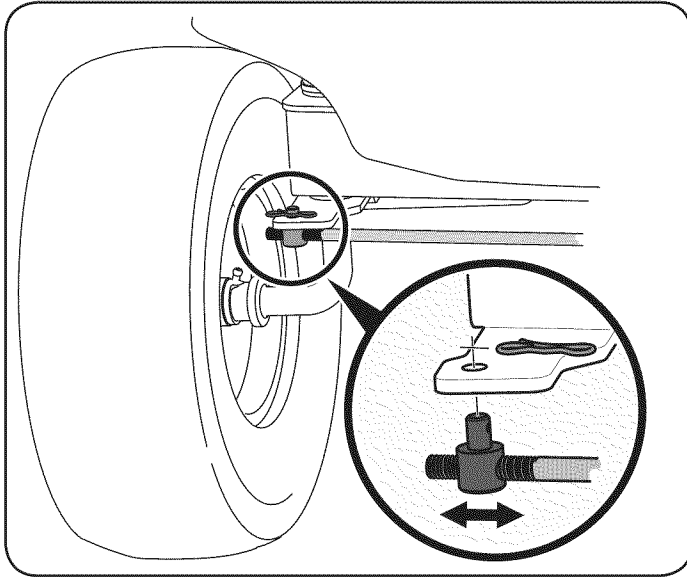

Figure 40
1. Remove the bow-tie clip securing the tie-rod ferrule to the right front axle assembly, and drop the tie-rod down to adjust. See Fig. 40.